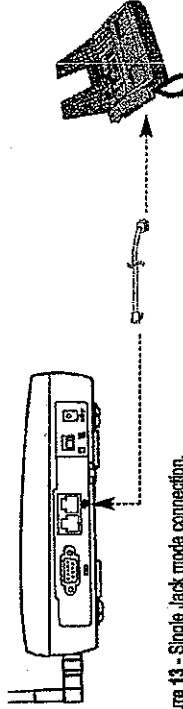

Figure 13 - Single Jack mode connection.
1. Connect a fax machine to the phone jack on the SX5 that is marked with a telephone icon - see Figure 13.